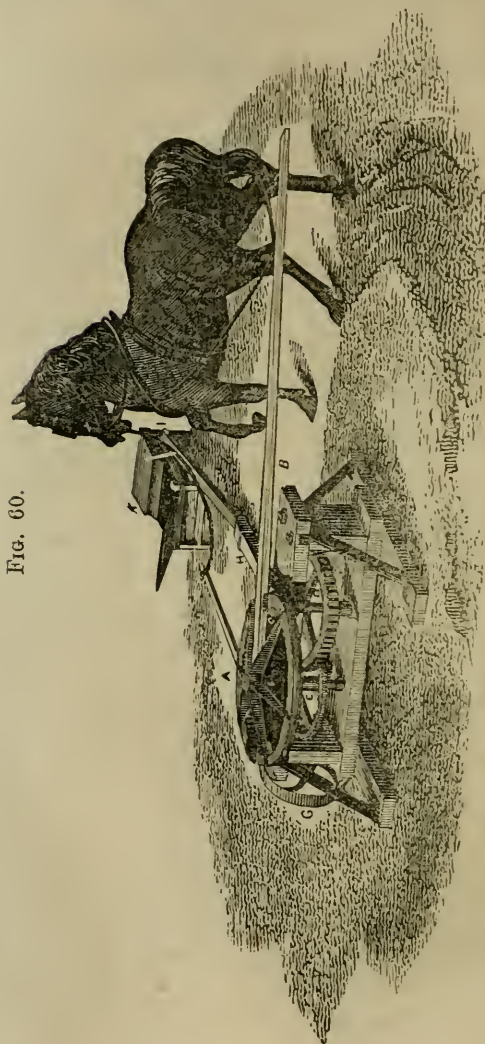

FIG. 60.
**No. 60.—Mayher & Co's Horse Power, with Thresher and Separator.**—Of Mayher and Co's Two and Four-Horse Powers (See Figs. 60, 60 $\frac{1}{4}$ , and 60 $\frac{1}{2}$ ) we manufacture two sizes—one to be driven by two horses, and the other, much larger and stronger, to be driven by four.